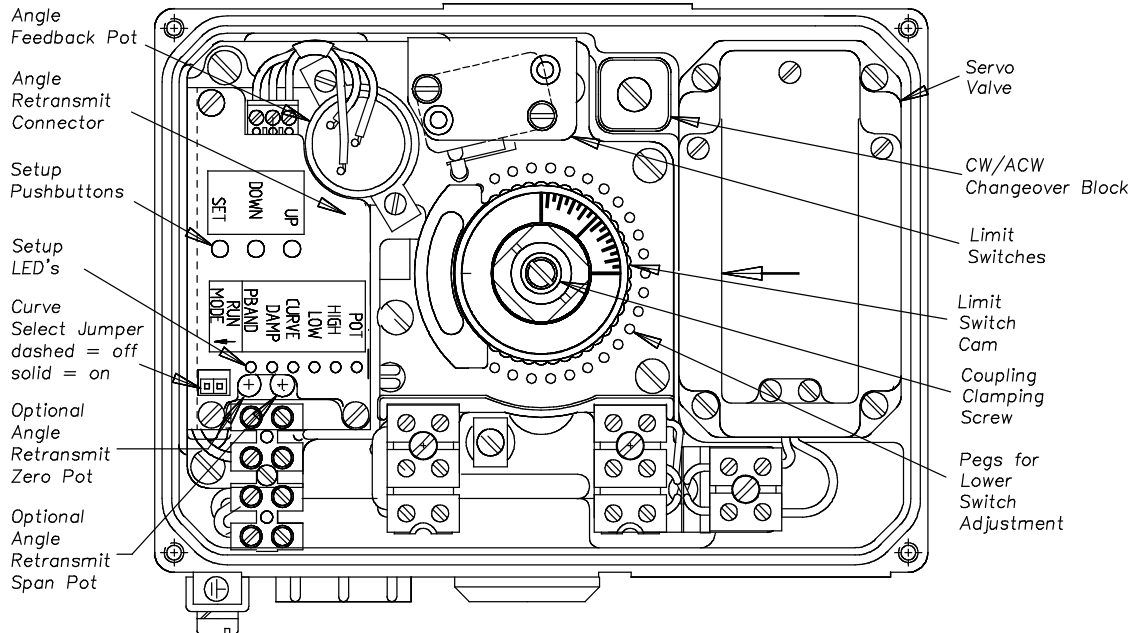

FIGURE 6a. DIGITAL EL CONTROL ADJUSTMENTS. OPEN BOX, TOP VIEW – MOULDED COUPLING.
**5.2.1** Moulded coupling cams, shown in figure 6a, can be adjusted using light pressure to rotate in 1 degree increments. Adjust the lower cam first using a screwdriver to lever against special pegs moulded into the carrier plate or use finger pressure. Secondly move the upper cam using finger pressure only. Graduated marks on the top of the coupling are provided to gauge the position of the actuator with the lid removed. This can be lined up with an arrow marked on the servo valve lid.